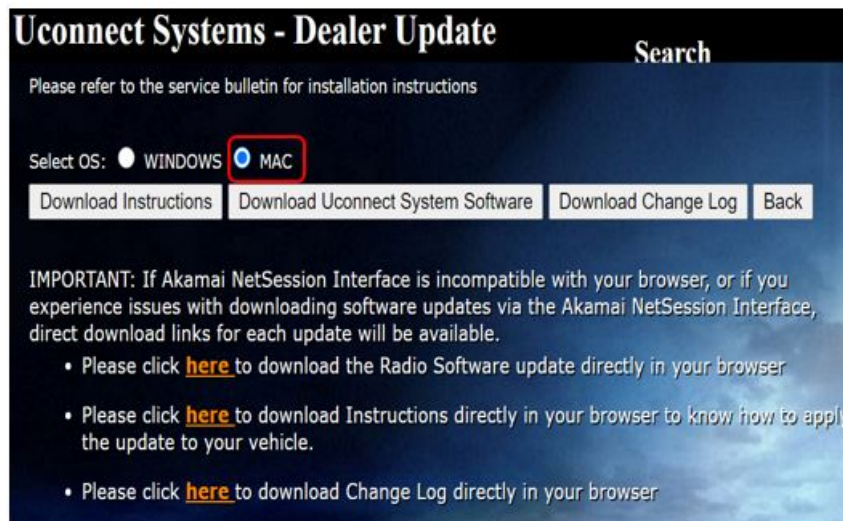

Fig. 2
5. Download the software update file to your local PC’s desktop. Make sure to select the “MAC” radial button for all downloads (Fig. 2) .